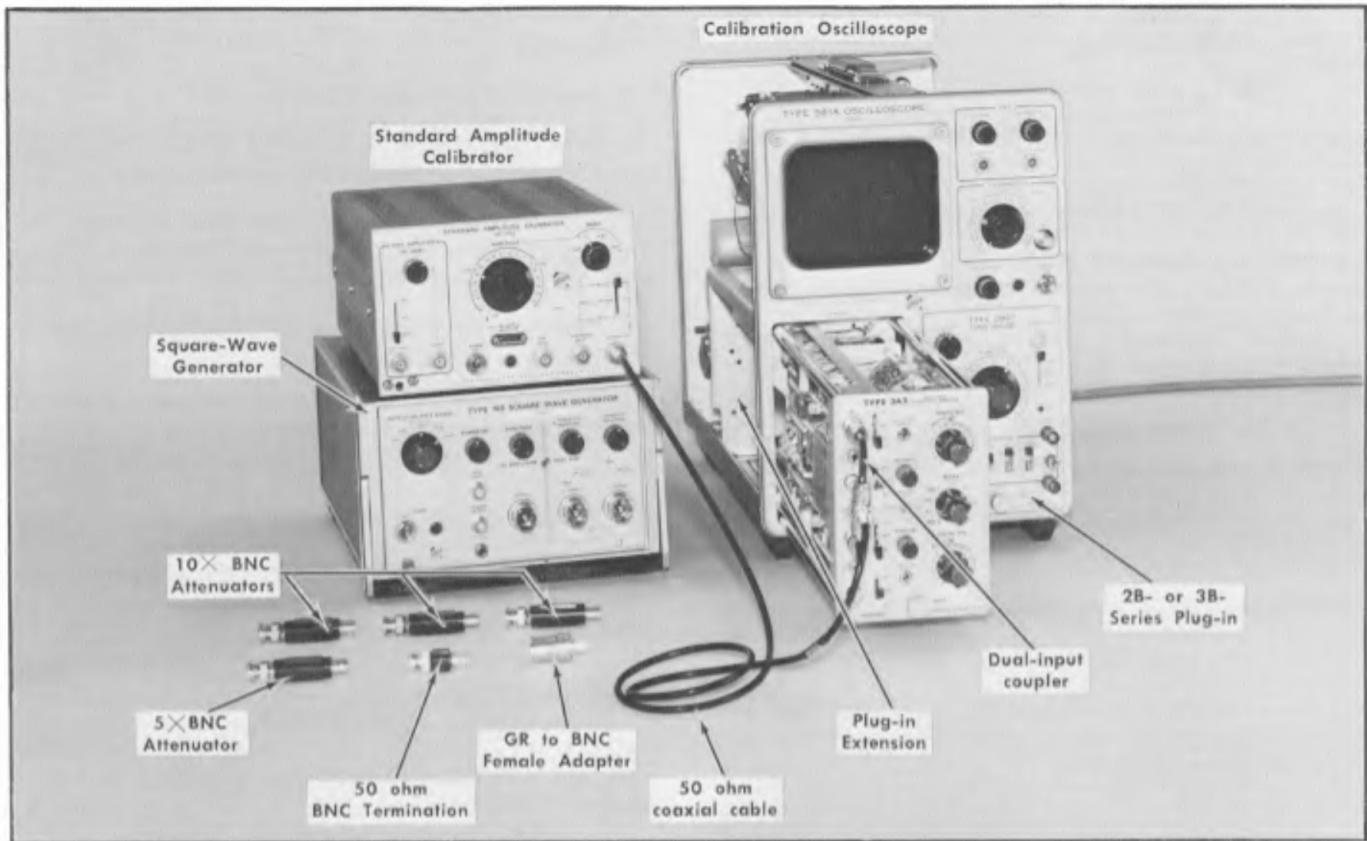

Fig. 6-4. Initial test equipment setup for steps 7 through 13.
- a. Test equipment setup is shown in Fig. 6-4.